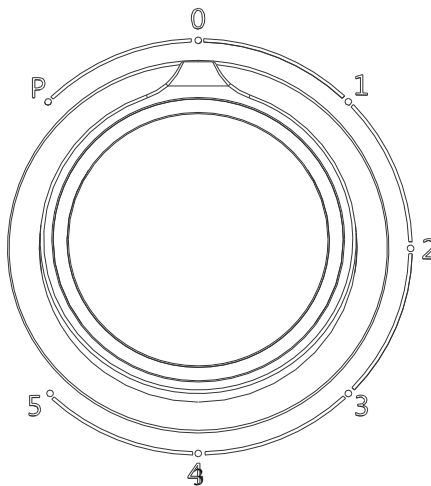

Fig.2
2. Ensure the **Speed Selector** to “0” Position, then plug into power outlet and set **Speed Selector** to your desired setting. You can press down the **Pulse button** without releasing it if want to accelerate the process of blending. The detailed information is shown in below Fig. 2